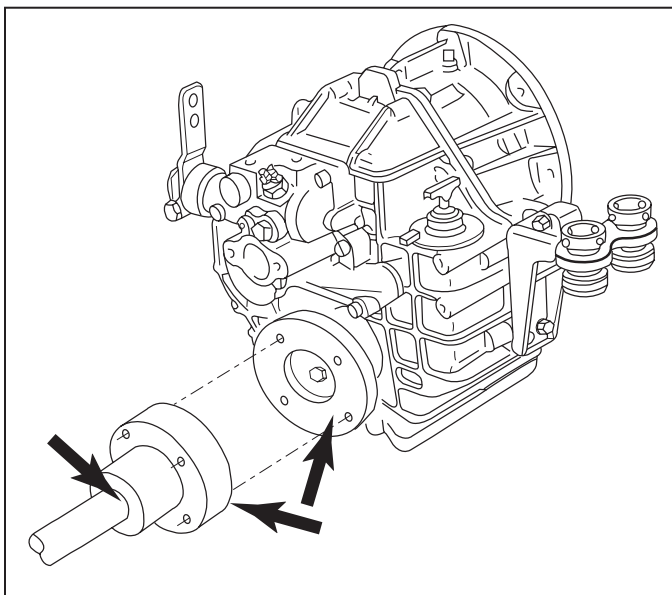

Figure 10-19 Shaft Mating Surface Check - 8 Degree Down Angle
1. Check the mating surfaces on the transmission and the propeller shaft couplings. Make sure they are clean and flat. (Figures 10-19, 10-20)